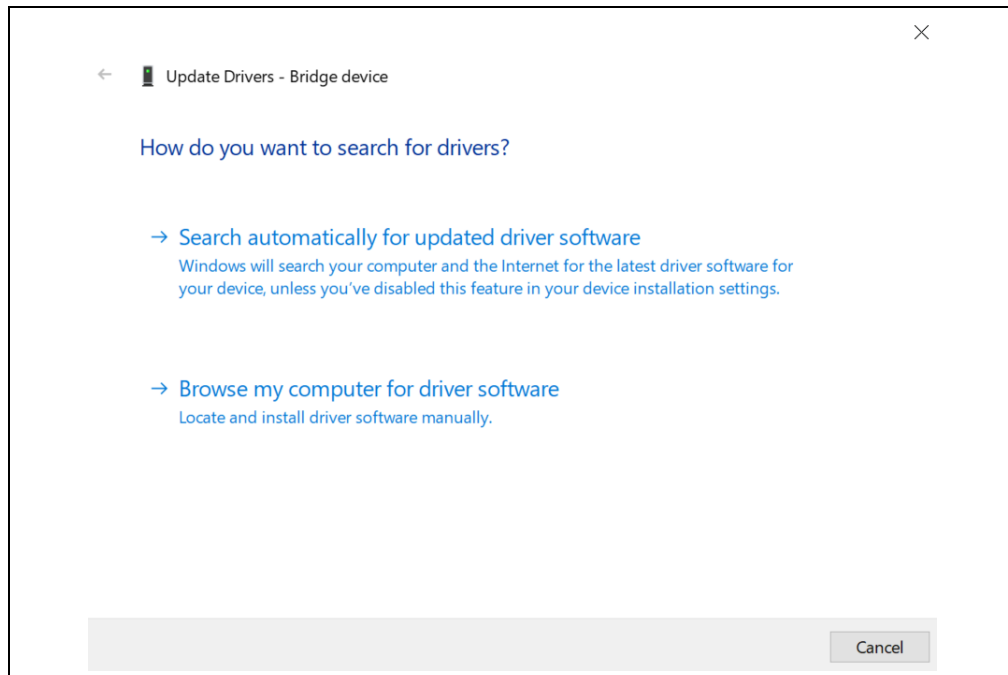

FIGURE 2-4: Driver Search Window.
7. After clicking on "Update driver", the window in Figure 2-4 will appear. Choose "Browse my computer for driver software".